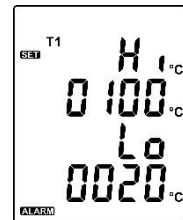

Fig.16
- (1) Press the  or  button to turn on or off.
- (2) When setting on mode, press the  button to set Hi and Lo limit. (see Fig.16)